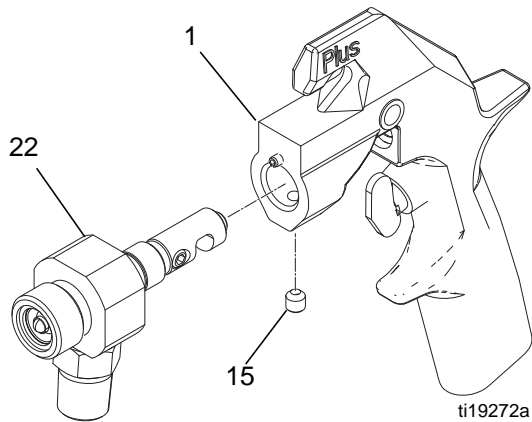

FIG. 8
- Loosen the setscrew (15) then remove the fluid housing (22) from the gun body (1). See FIG. 8.